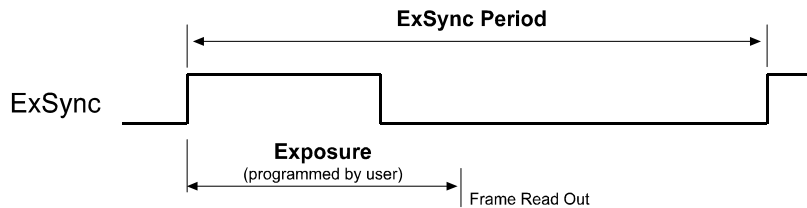

Figure 3-5: ExSync Programmable Mode
- In **ExSync programmable mode**, the rising edge of ExSync triggers the start of exposure. Exposure and charge accumulation continue for a pre-programmed length of time. The frame is read out and transferred at the end of the pre-programmed exposure time. The length of the pre-programmed exposure time is determined by the exposure time setting. The falling edge of ExSync is not relevant (see Figure 3-5).
- In **ExSync flash window controlled mode (A406k cameras only)**, the rising edge of ExSync triggers the start of exposure and charge accumulation. The frame is read out and transferred at the end of an exposure time calculated by the camera. The falling edge of ExSync is not relevant (see Figure 3-5).